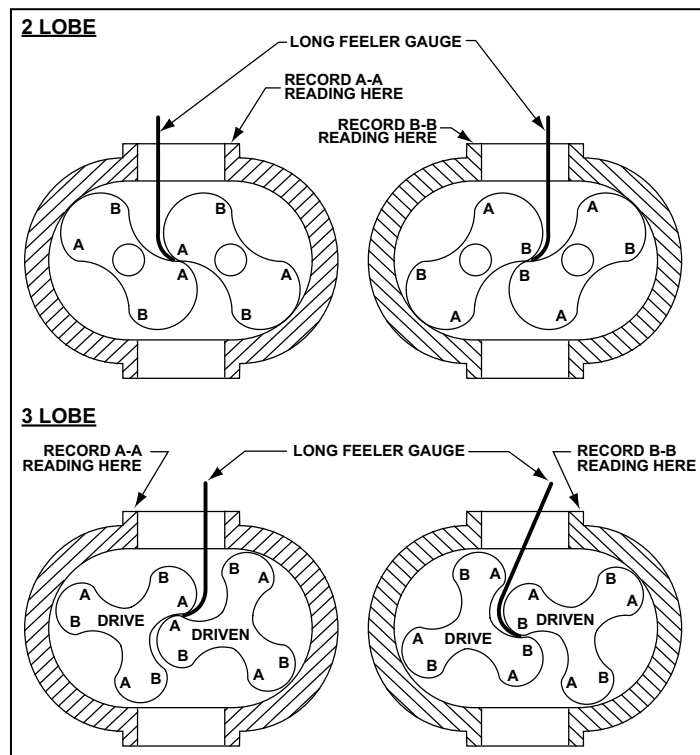

Figure 21 - Checking Rotor Interlobe Clearance
9. Set dowel pins [9] in housing and position housing over the rotors and fasten with cap screws [15]. Check housing to rotor clearance. (Refer to Figure 21) A depth mic can be used.
16. Using feeler gauges take interlobe readings and record on each side of housing as indicated in Figure 21. By removing or adding shim behind the helical gear, it rotates as it is moved in or out and the driven rotor turns with it, thus changing the clearance between rotor lobes.
18. **EXAMPLE:** Referring to Figure 21, check the clearance at AA (right hand reading) and BB (left hand reading). If